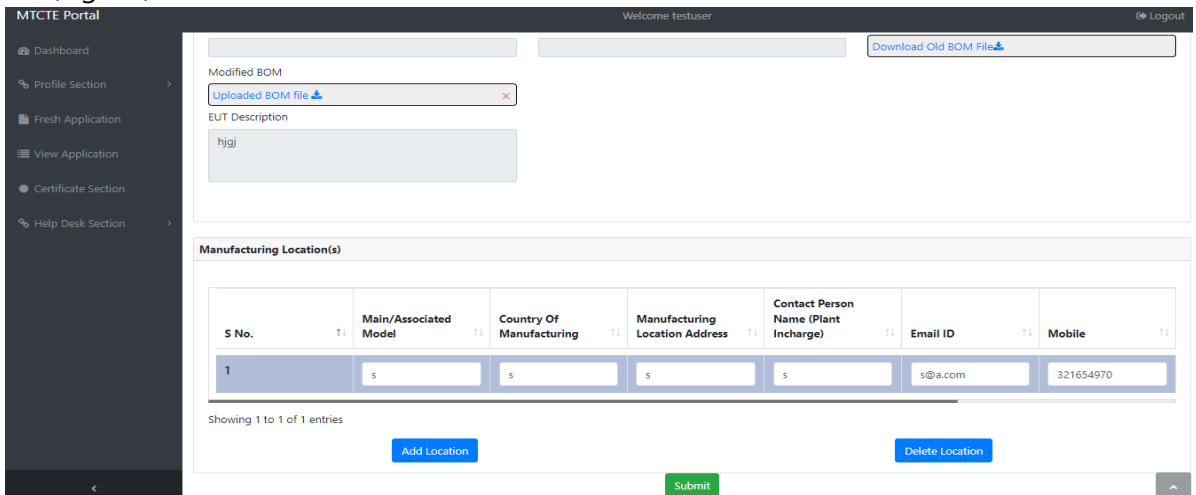

Fig. 40: Manufacturing location of Associated models
c. Enter the Manufacturing location(s) of the added Associated Models and click on **Submit** (Fig. 40).